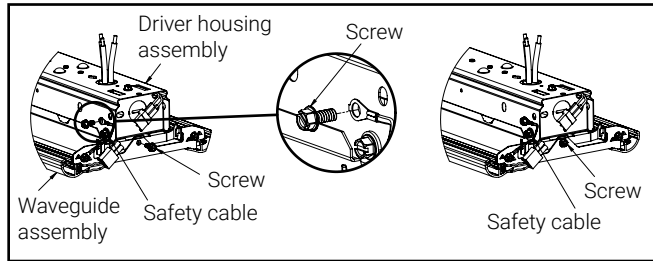

Figure 4
- Secure waveguide assembly to channel hinge bracket assembly with screws and install the safety cable by removing a screw from channel assembly and reattach safety cable with the same screw. (Figure 4)